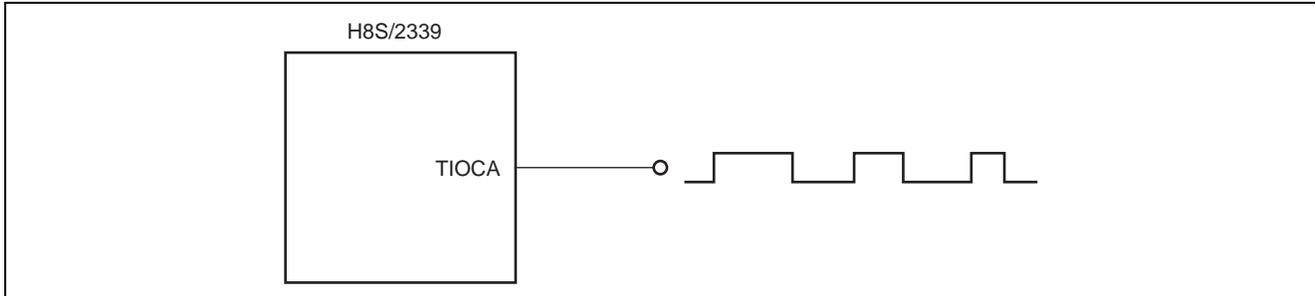

Figure 1 Example of PWM Waveform Output by TPU Buffer Operation
- As shown in figure 1, a PWM waveform with varied high- and low-pulse widths is output.